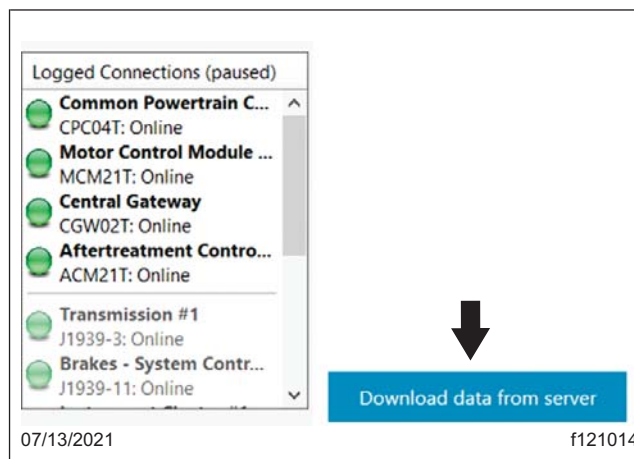

Fig. 7, Downloading Data from the Server
8. Select 'Connected Unit.' Make sure the VIN information populated in the center window is correct; then select 'Download data from server' at the lower left-hand side of the screen. See Fig. 7.